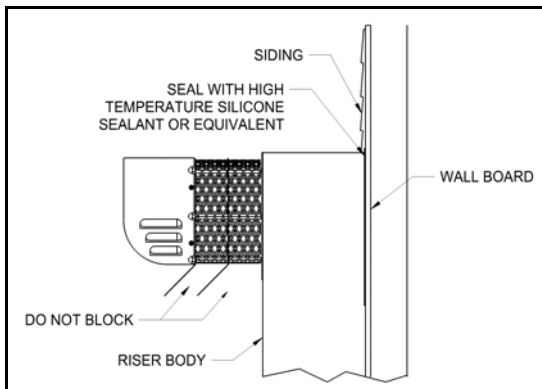

Figure 2
6. Apply a bead of the supplied silicone sealant to the back of the top and sides of the riser section mounting flange, and mount the power venter on the wall, making sure to pass the flexible conduit and pressure tubing through the wall, and keeping the outer pipe centered in the hole (see Figure 2). Fasten the power venter to the outside wall with stainless steel or galvanized lag screws (not included) or other appropriate fasteners. Flash and seal the edges of the power venter mounting plate to the wall with exterior sealant as necessary to prevent water entry behind the riser. DO NOT enclose the spaced plates on the power venter body. This will result in reduced cooling of the power venter body. Wood or vinyl siding should be cut so that the unit mounts directly on the wallboard to provide a stable support. If the siding is greater than 1/2" thick use a spacer plate or board behind the power venter mounting plate. (See Figure 2)